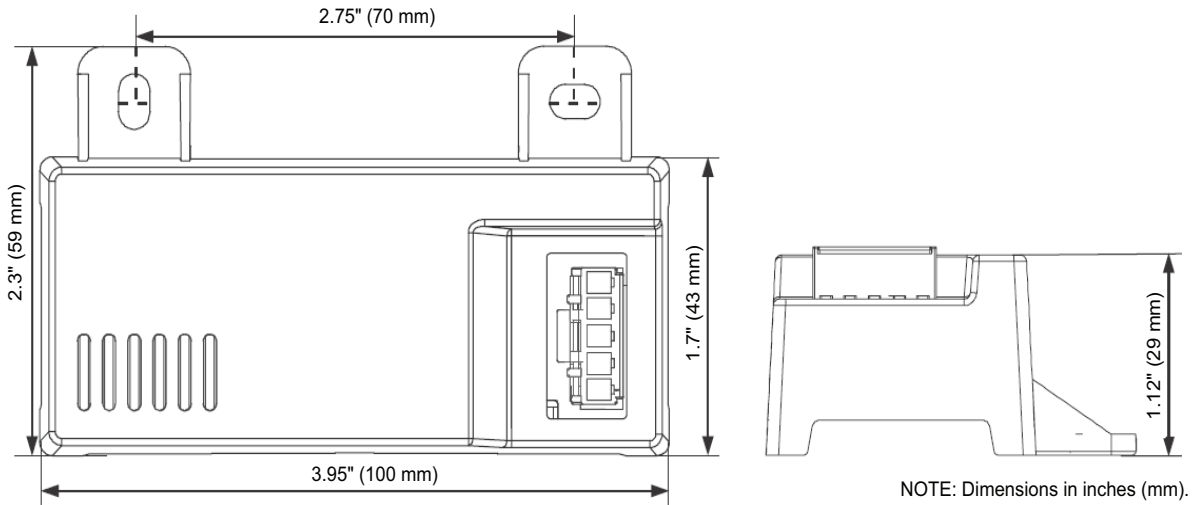
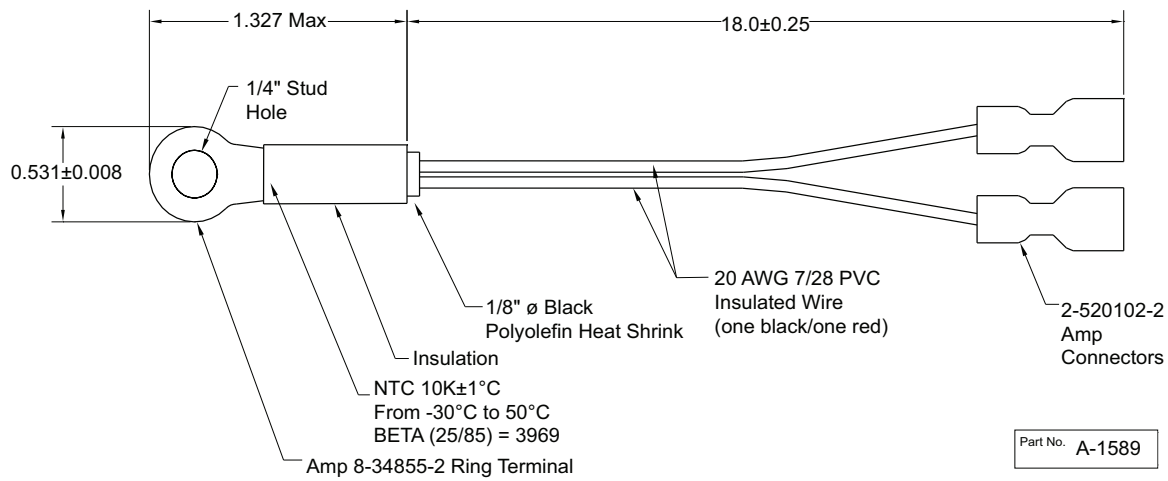
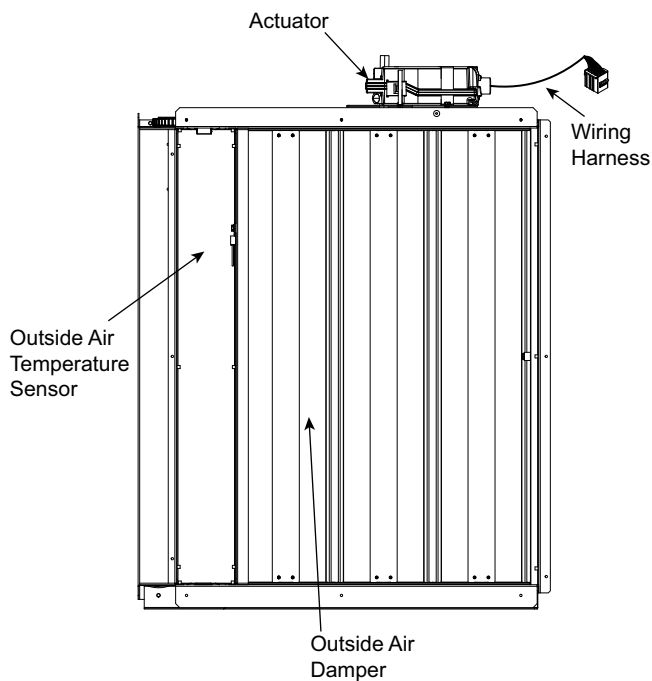

Fig. 84 – HH57LW001 Dimensional, Connection and Switching Information
Fig. 85 – HH79NZ039 Dry Bulb and Mixed Air Sensor Wiring
Fig. 86 – EconomizerONE Component Locations (CRECOMZR108A00 Shown)
When using the HH57LW001 enthalpy sensor (see Fig. 84) for outside air changeover, the existing HH79NZ039 dry bulb sensor (see Fig. 85) must be removed. The enthalpy sensor will be mounted in the same location as the dry bulb sensor (see Fig. 86). When the enthalpy sensor's OA (Outside Air) temperature, enthalpy, and dew point are below their respective setpoints, the outside air can be used for free cooling. When any of these are above the setpoint, free cooling will not be available. Enthalpy setpoints are configurable and create an enthalpy boundary according to the user's input. For additional details, see Fig. 87-88 and Table 35.
The optional enthalpy control sensor (P/N: HH57LW001) communicates with the POL224 economizer controller using the 5-wire harness, 48TC005213. The HH57LW001 sensor can be used as a single outside air enthalpy, a differential return enthalpy, or a differential return temperature sensor. Refer to the base unit control wiring diagrams found earlier in this book to wire the HH57LW001 enthalpy sensor for each option. Use Fig. 84 and Table 37 on page 74 to locate the wiring terminals for each enthalpy control sensor.
Economizers are shipped standard with an HH79NZ039 outside air dry bulb sensor (see Fig. 85). System default setting (high temp limit) is 63°F (17°C) and has a range of 48°F to 80°F (9°C to 27°C). Sensor is factory installed on economizer.
If installing the optional HH57LW001 enthalpy sensor, the HH79NZ039 dry bulb outside air sensor must first be removed. Wire sensor to harness 48TC005213 and the (5) wires from the harness to the EconomizerONE harness in the return air chamber. Harness 48TC005213 has a 5-pin plug that connects directly to the HH57LW001 enthalpy sensor. Refer to the base unit control wiring diagrams earlier in this book for wiring connections. Refer to Fig. 84 and Table 37.